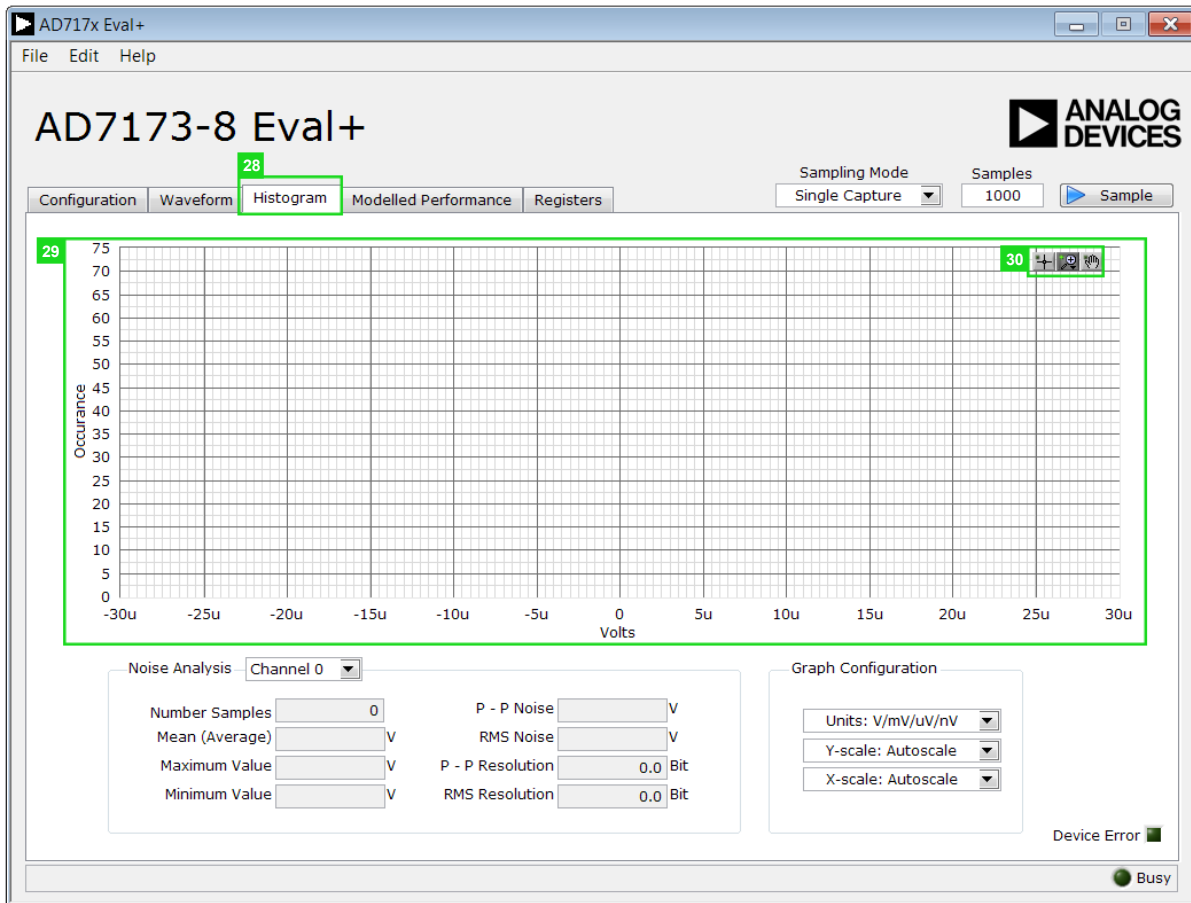

Figure 19. **Histogram** Tab of the AD7173-8 Eval+ Software
Figure 19 shows the **Histogram** tab of the AD717x Eval+ Software.
The data histogram graph (29) shows the number of times each sample of the ADC output occurs. The control toolbar (30) in the histogram graph allows the user to zoom in on the data (see Figure 19). Click the x-axis and y-axis to change the scales on the graph (see Figure 19).